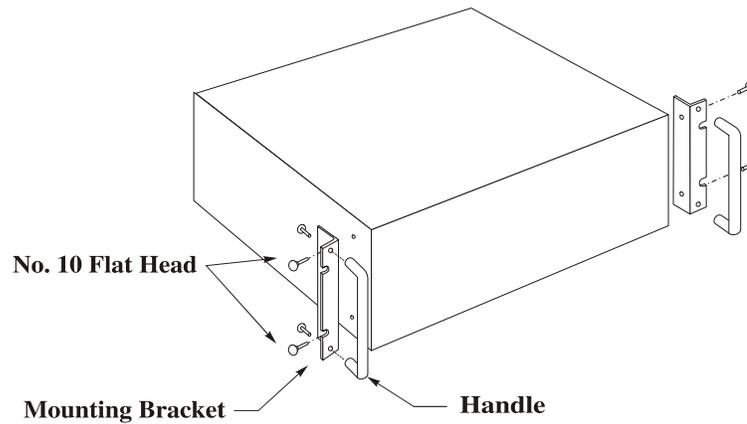

Figure 3. Installing rack-mounted instrument brackets on the instrument enclosure.
1. Secure the two mounting brackets shown in Figure 3 to either side of the instrument enclosure.